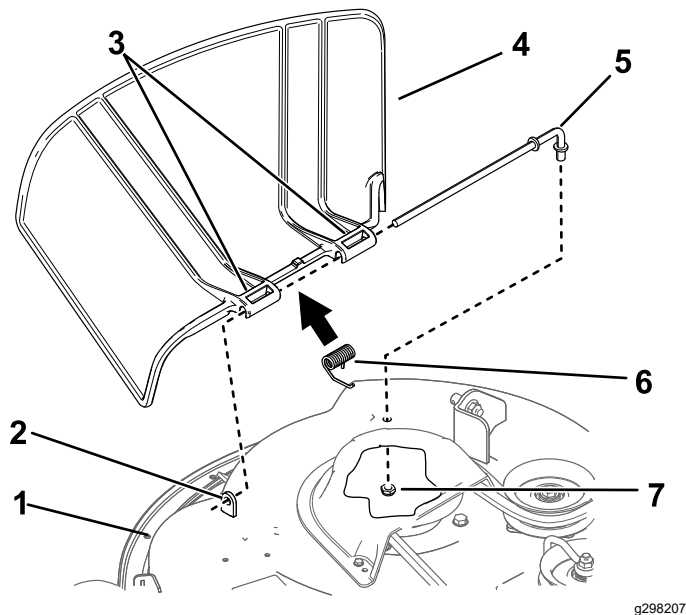

Figure 68
1. Remove the nut (3/8 inch) from the rod under the mower (Figure 68).
7. Slide the rod through the second grass-deflector pivot (Figure 68).
9. Secure the rear end of the rod into the mower with a nut (3/8 inch) as shown in Figure 68.
2. Slide the rod out of the short stand-off, spring, and grass deflector (Figure 68).
4. Install the new grass deflector (Figure 68).